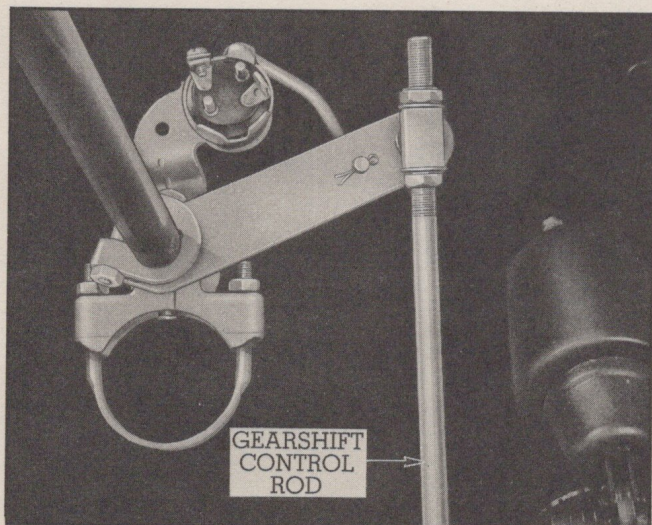

Fig. 8 Location of Gearshift Control Rod
3. Back off both gearshift control rod trunnion lock nuts (Fig. 8).